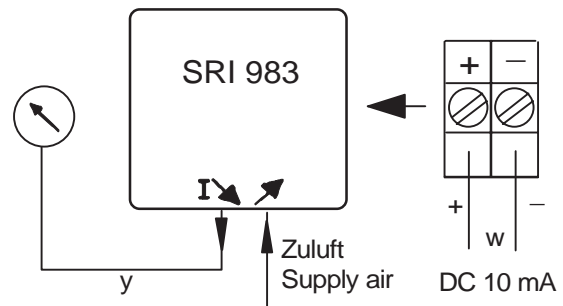

Fig. 28: Test circuit for single acting positioner
- g) Connect the positioner as shown in the test circuit, fig. 28, preset supply air to 1.4 bar.